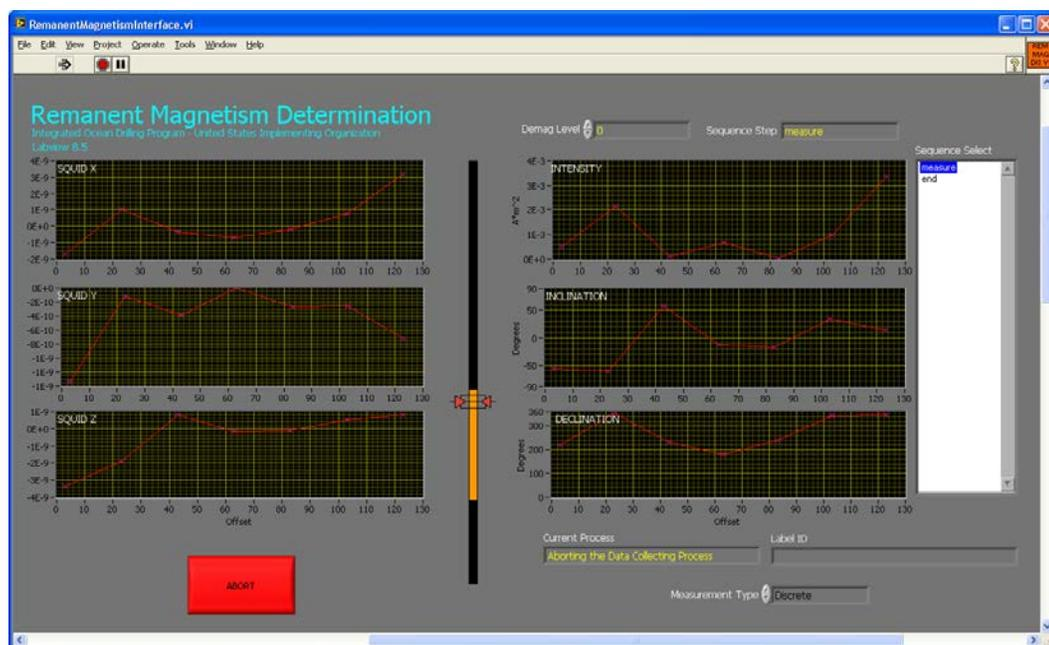

Figure 8. Data Collection Screen.
2. Select **Process Samples** from the *Main* screen to start measuring the sample and open the *Data Collection* screen (Figure 8). The plots show real-time acquisition plots for the sequence step in progress.